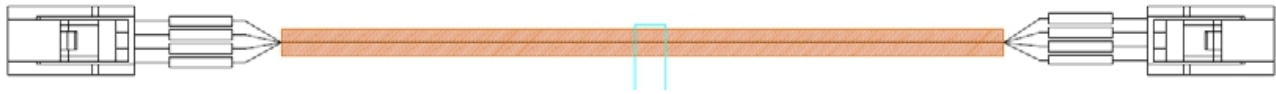

Figure 13 Schematic diagram of the battery pack communication line
1). Take out the matching battery pack communication line as shown in Figure 13.